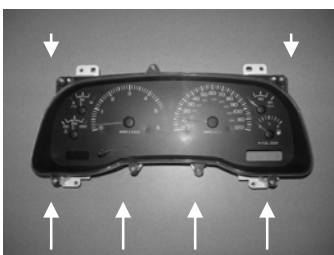

Figure 5
3. Remove the seven Phillips head screws from the front of the instrument cluster. (See figure 5)